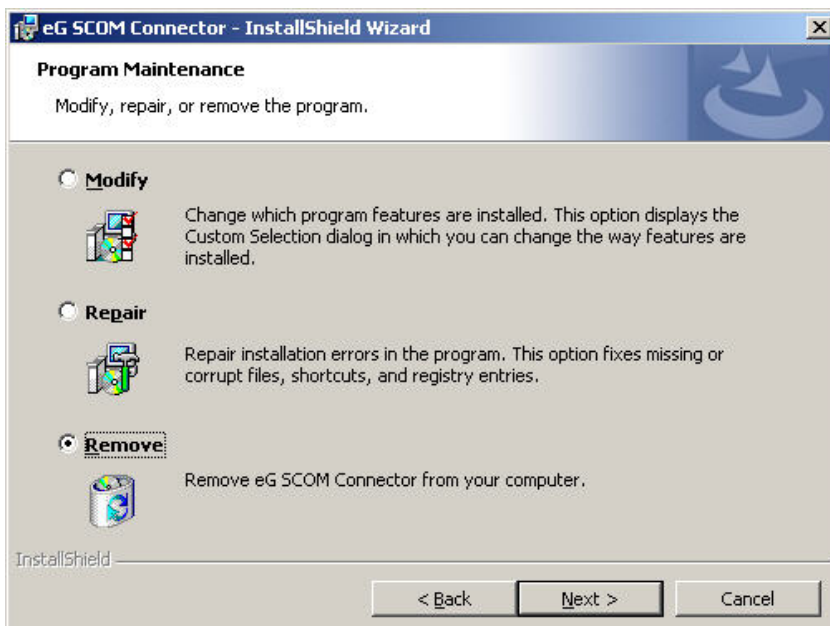

Figure 4.48: Select the Remove option
5. From Figure 4.48 that then appears, pick the **Remove** option to uninstall the connector.